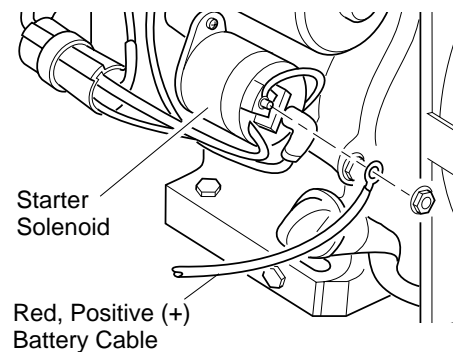

Figure 8 - Connecting Red, Positive (+) Battery Cable to Engine Starter Solenoid (Model RGH7500IE Shown)
1. Attach the red, positive (+) battery cable to the starter solenoid on engine (see Figure 8). The starter solenoid is located directly above the starter on Model RGH11000IE. This cable is factory installed.